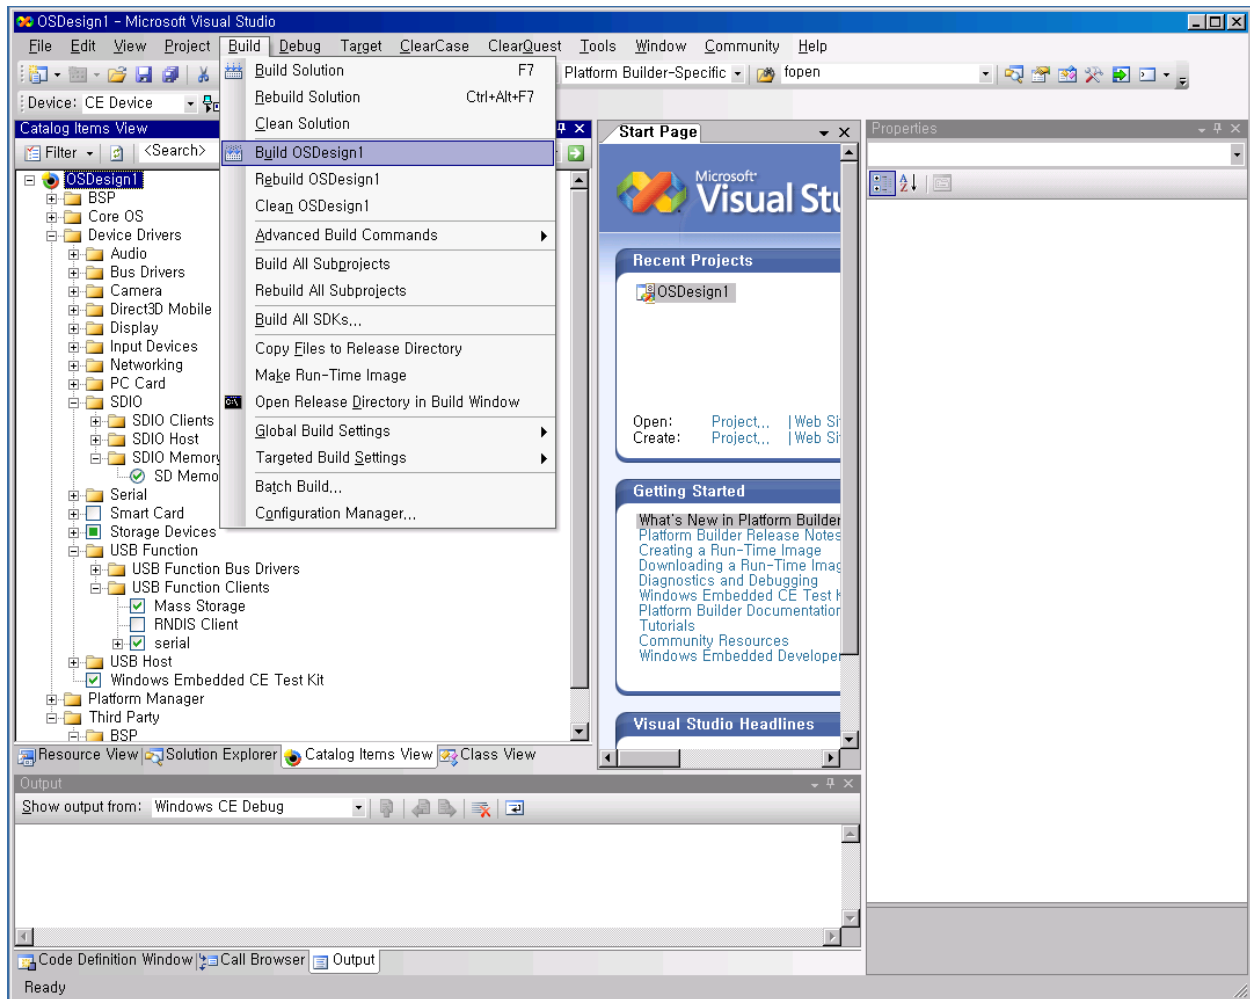

Figure 4-12 Build OS Design
12. On the **Build** menu, click **Build OSDesign1** as shown in figure 4-12 to build the Eboot and OS image.